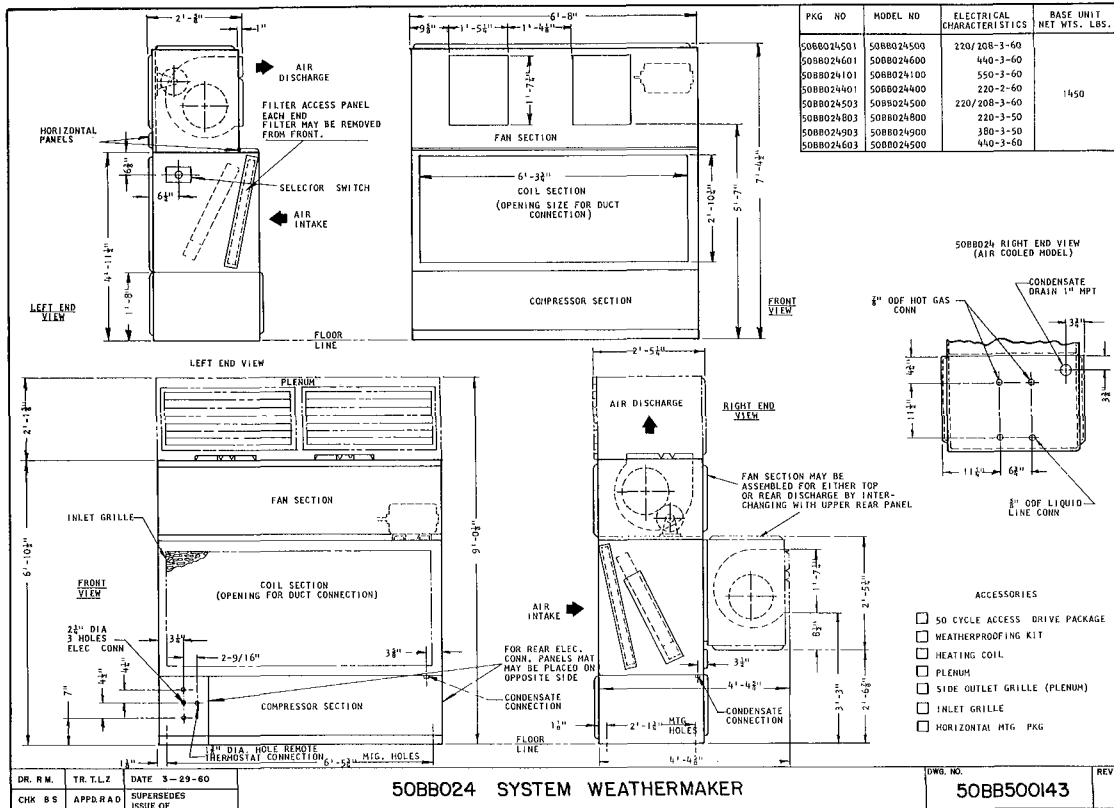

FIG. 1 - DIMENSION DRAWING - SELF-CONTAINED UNITS
Location and size of various service connections and requirements listed below are shown in Fig. 1 and 2. Check Fig. 1 and 2 before starting installation of unit.
2. CHECK SPACE REQUIREMENTS FOR CLEARANCE FOR SERVICING (FIG. 1 AND 2)
be removed through either side or top of the unit. See Fig. 1 and 2 for approximate length and height of coils.